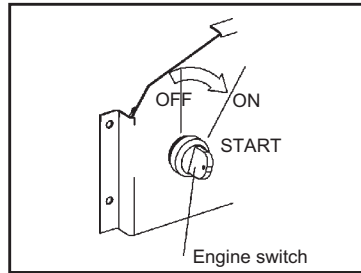

Fig.8 Start the knob view
4.3 Insert the engine key, and turn the engine switch to on position, see Fig.8.